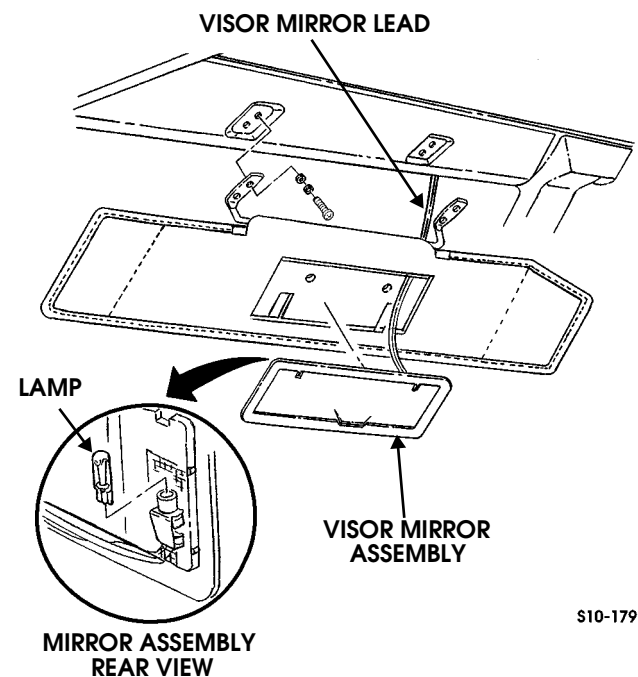

Figure 10-174: Lighted Visor Mirror Replacement
1. Pull mirror assembly from visor (Figure 10-174).
1. Install lamp (Figure 10-174).